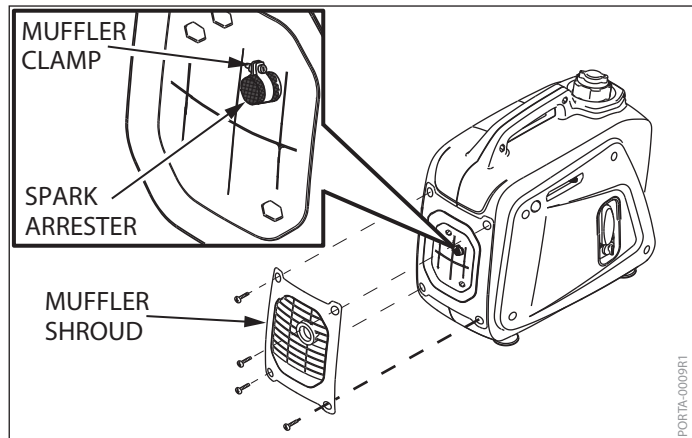

FIGURE 10
1. Remove the muffler shroud. **SEE FIGURE 10**